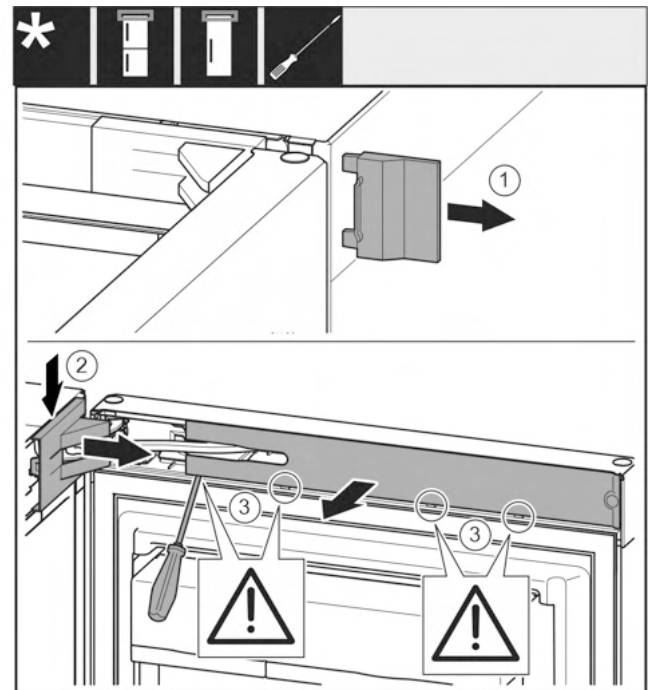

Fig. 10
► Remove the cover Fig. 10 (1).
► Snap out the swap bearing block cover Fig. 10 (2) and loosen it.
► Take off the swap bearing block cover Fig. 10 (2).
► Use a slotted screwdriver to snap out the faceplate Fig. 10 (3) and swivel it to the side.